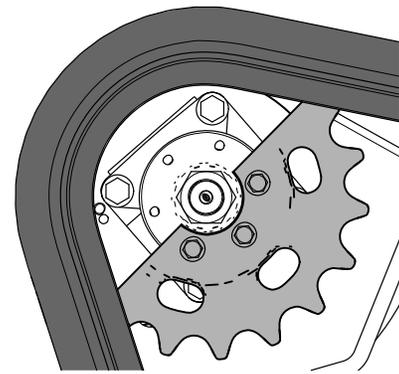

Figure 63
- Move the traction control forward until the other half of the drive sprocket is not engaged with the track (Figure 63).